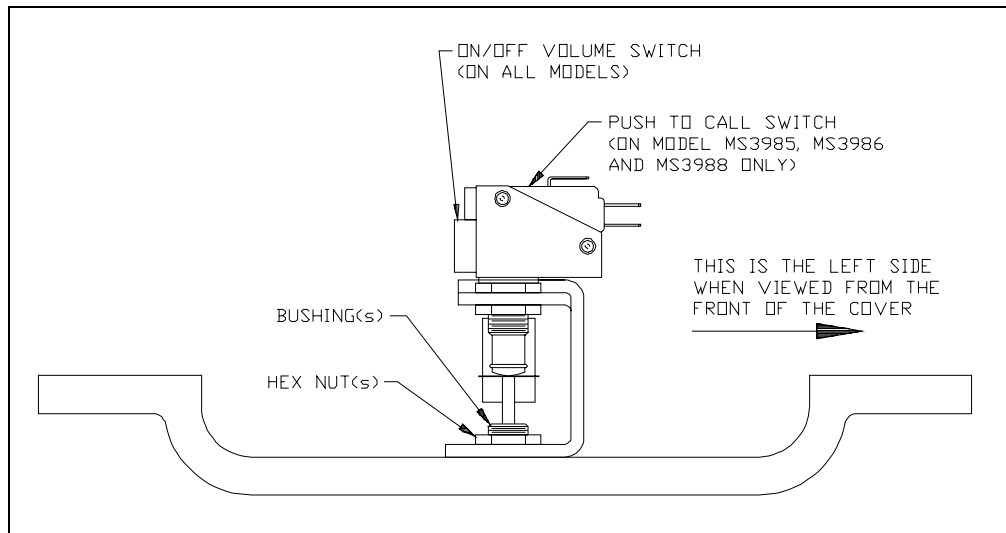

Figure 2. Bottom Edge View
2. Tighten the hex nut(s) to the bushing(s) in the front cover using the $\frac{5}{8}$ -inch open-end wrench. See Figure 2.